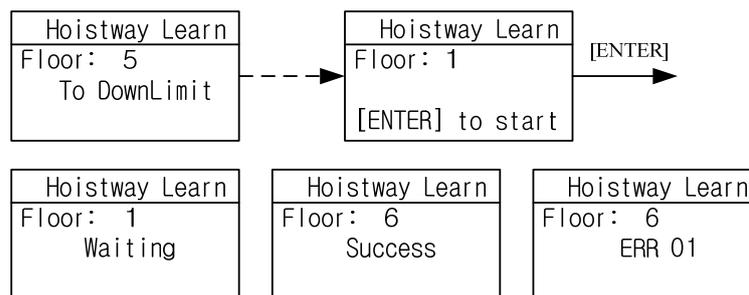

Figure 8.1 Hoistway Parameter Self-Learning Procedures
- 4) Enter elevator hoistway self-learning menu through digital operator, follow the learning procedures shown below in Figure 8.1.